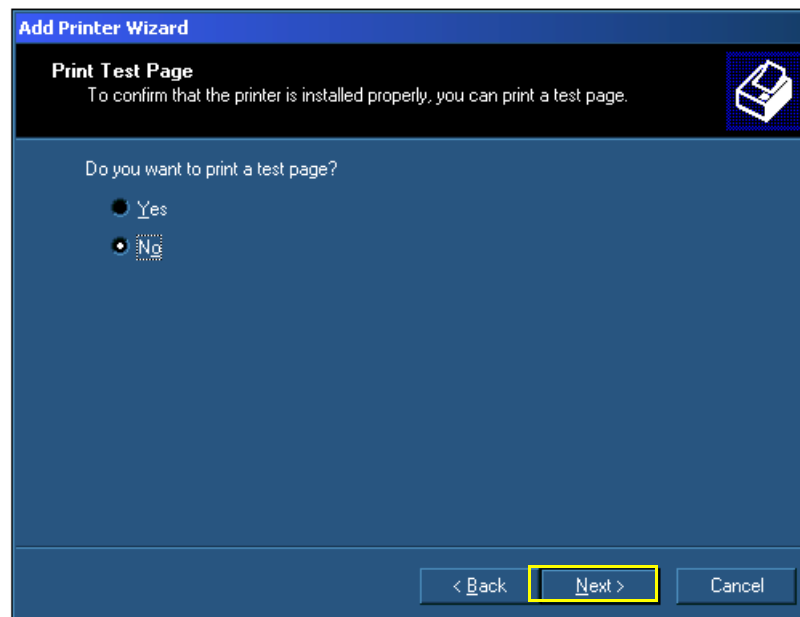

Figure 8-188 Print Test Page Message
20.)In response to the *Print a test page?* message, choose **No** and then click **Next** - see Figure 8-188.